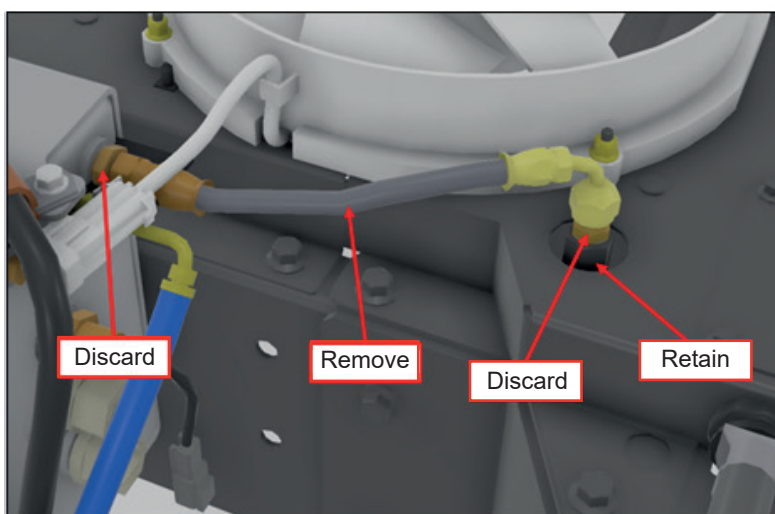

Figure 2 - Removal of Radiator Inlet Vent Hose
- 1.6. Remove the radiator inlet vent hose attached to the surge tank. Discard both the adaptor fittings on each end (see figure 2).